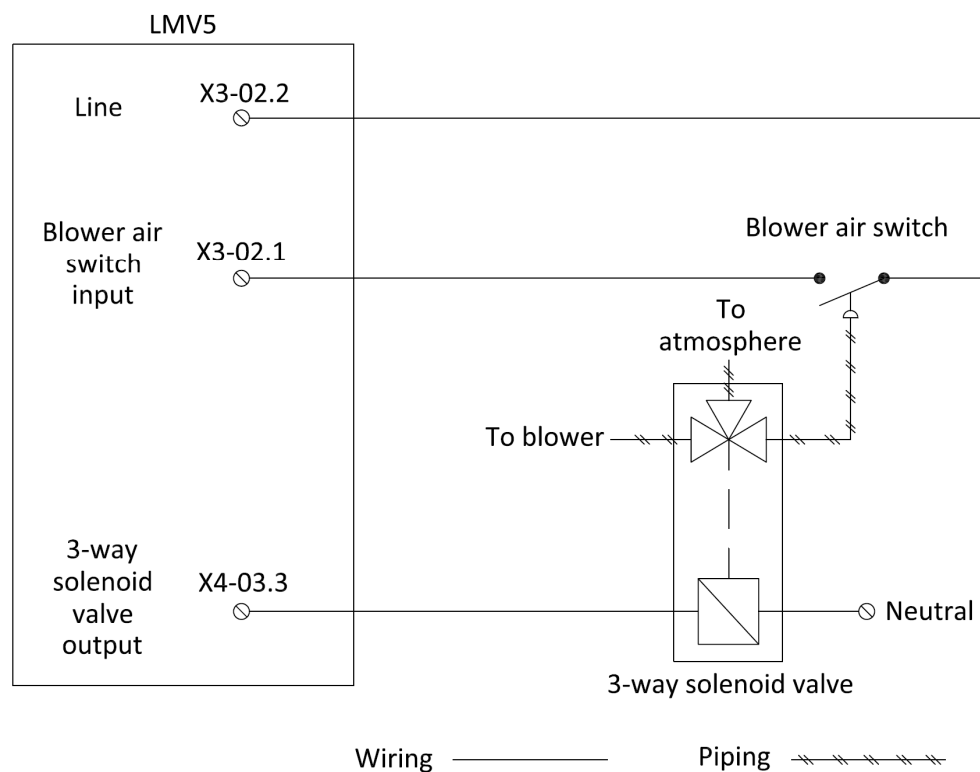

Figure 1: Wiring a 3-way Solenoid Valve for Continuous Purge
1. Install and wire a 3-way solenoid valve as shown in Figure 1.